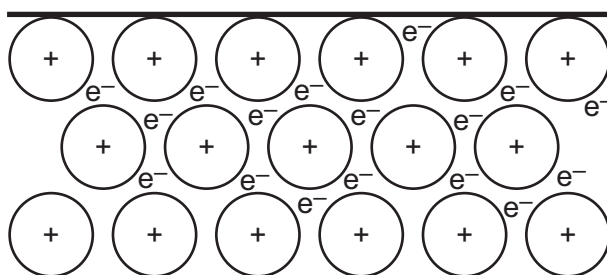

Fig. 6.2
- (b) Fig. 6.2 shows the arrangement of particles in a metal.
Use information from Fig. 6.2 to help explain the following facts about this metal.
- (i) Suggest how the malleability of the alloy will compare with that of the metal in Fig. 6.2.